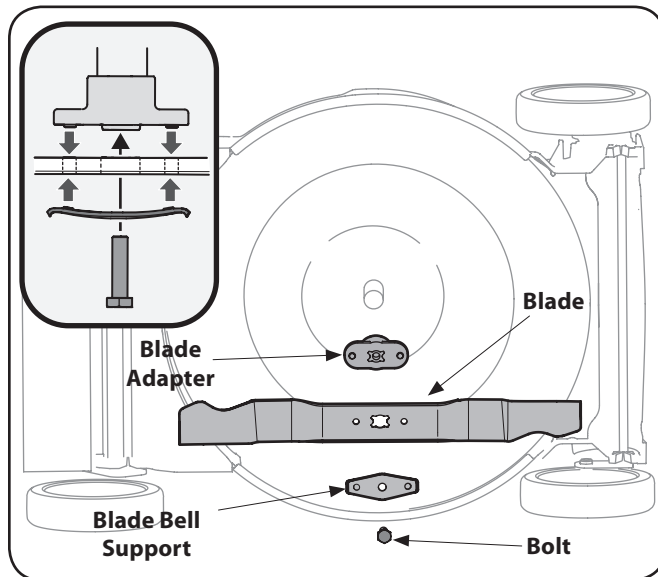

Figure 7-1
2. Remove the bolt and blade bell support which holds the blade and the blade adapter to the engine crankshaft. See Fig. 7-1.
3. Remove blade and adapter from the crankshaft. See Fig. 7-1.